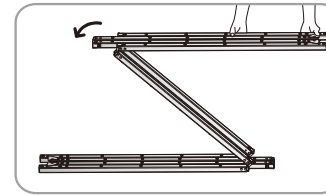

Figure 37
7. Unfasten the horizontal sides of main frame so that the main frame is fully folded ( Figure 37 - 38 ).